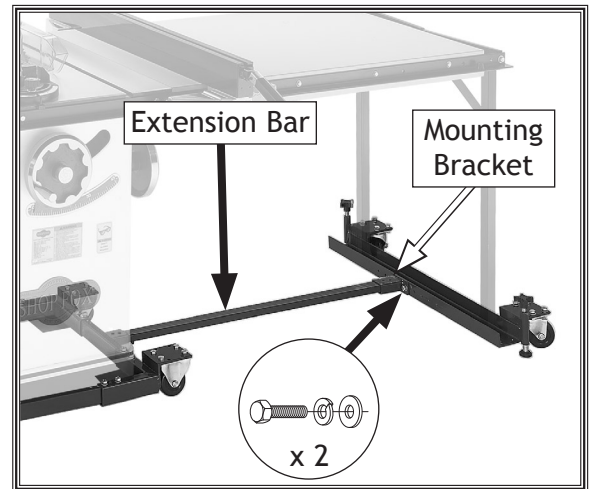

Figure 6. Extension bar attached.
11. Lower the extension bar and align the bracket with the threaded holes on the side of the support channel, as shown in **Figure 6**.
12. Secure the mounting bracket to the support channel using (2) M8-1.25 x 16 hex bolts, 8mm lock washers, and 8mm flat washers (see **Figure 6**).